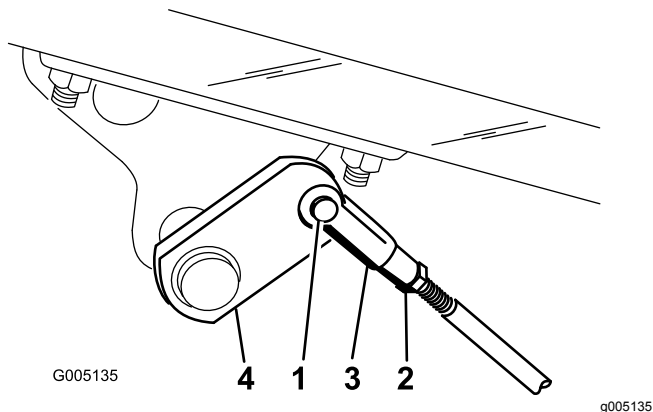

Figure 56
2. If the brakes do not lock equally, disconnect the brake rods by removing the cotter pin and clevis pin (Figure 56).
3. Loosen the jam nut and adjust the clevis accordingly (Figure 56).
4. Assemble the clevis to the brake shaft (Figure 56).